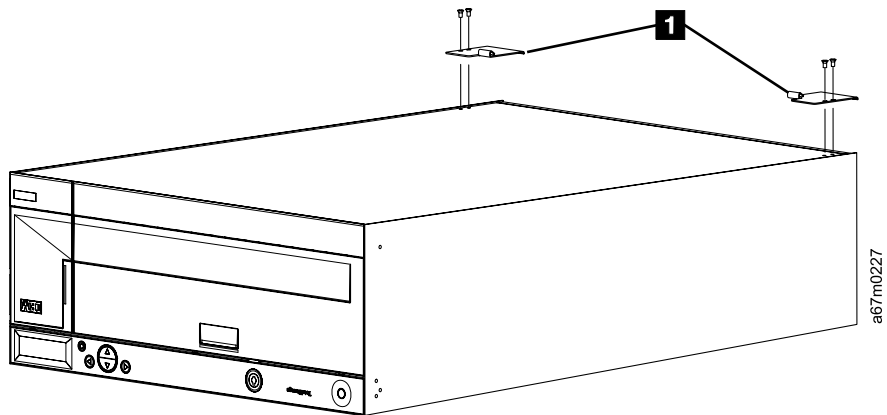

Figure 14. Installing the library stop plates
10. To prevent your library from sliding out the front of your rack, you must first install two stop plates on the rear-underside of your library. To install the two stop plates, turn the library upside down on a sturdy table (see Figure 14 on page 26). Position your Right Library Stop (part number 18P7708) and your Left Library Stop (part number 1807709) so that each plate fits snugly into the library's rear groove of the library's underside and so that the stop plates'
tongues point toward the front of the library. You must also align each stop plate with the two threaded holes in the library's underside. Screw two M3 X 6 flat head Phillips screws into each stop plate. Tighten the screws to secure the plates. See **1** in Figure 14 for the locations to install the stop plates.